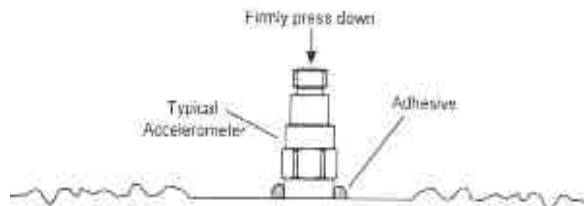

Figure 8. Direct Adhesive Mounting
STEP 2: Place a small portion of adhesive on the underside of the sensor. Firmly press down on the top of the assembly to displace any adhesive. Be aware that excessive amounts of adhesive can make sensor removal difficult. (figure 8)